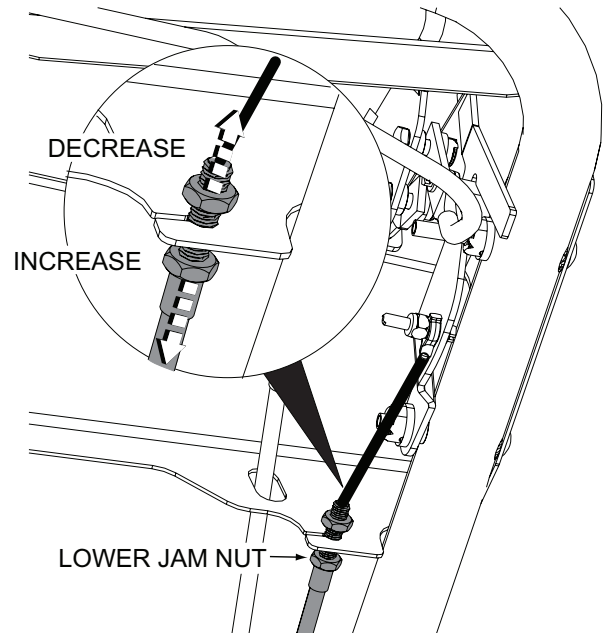

Figure 6-2. Parking Brake Cable Adjustment
4. Adjust the cable by moving the threaded shaft in the hole in the handle bar bracket, down to increase tension and up to decrease tension on the cable. See Figure 6-2.
7. While holding the cable in place, turn the lower jam nut until it is tight against the handle bar bracket. See Figure 6-2.